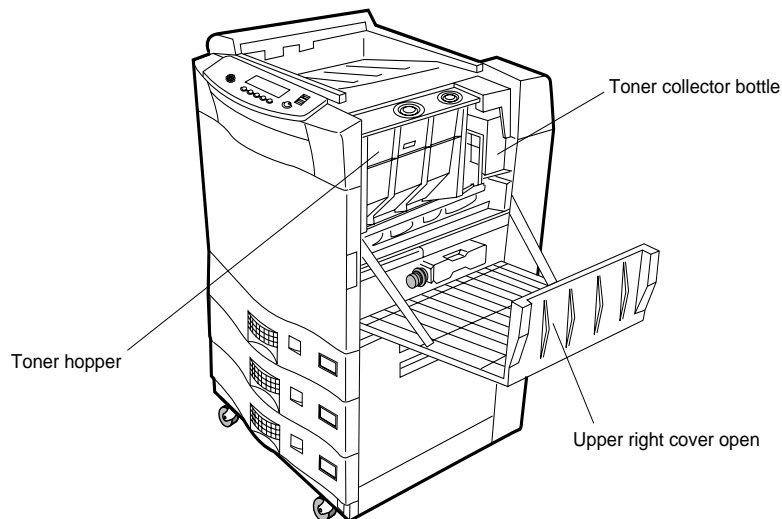

Figure 4-1 Opening Upper Right Cover
2. Open the upper right cover (Figure 4-1) to access the toner hopper and toner collector bottle.